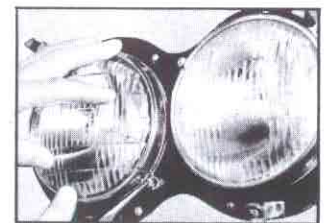

Fig. 52—Retaining Ring and Spring
2. Remove the spring holding the retaining ring (fig. 52). Do not touch the adjusting screws at the top and sides of the mounting ring (fig. 52).